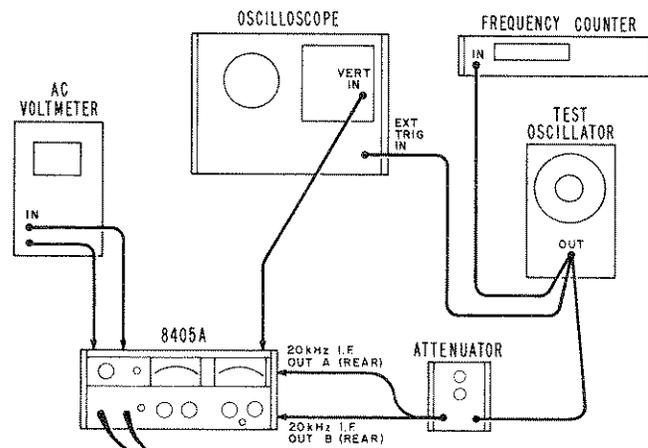

Figure 2B. Setup for IF Tuning, IF Gain and IF Sampler Adjustments
- a. Connect test equipment as shown in Figure 2B. Connect AC Voltmeter between A5Q1 base and 8405A Chassis. Connect Oscilloscope vertical input between A5C4-A5R8 junction and 8405A chassis.
- a. With test equipment as shown in Figure 2B, and with Circuit Assemblies A3, A4, A10 and A11 still unplugged, put Channel B Isolation Amplifier A18 on extender A26.
- a. Connect test equipment as shown in Figure 2B: 8405A control settings are optional.